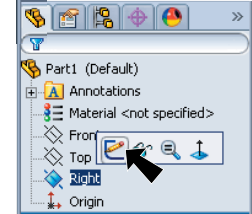

Fig. 1
Step 2. Click **Right** (plane) in the Feature Manager and click **Sketch**  from the Content toolbar, **Fig. 1**.